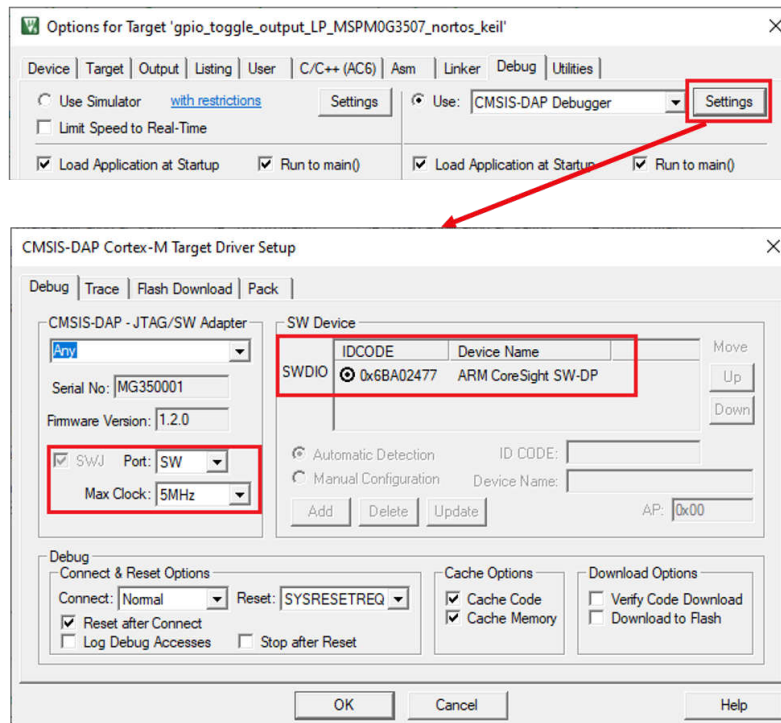
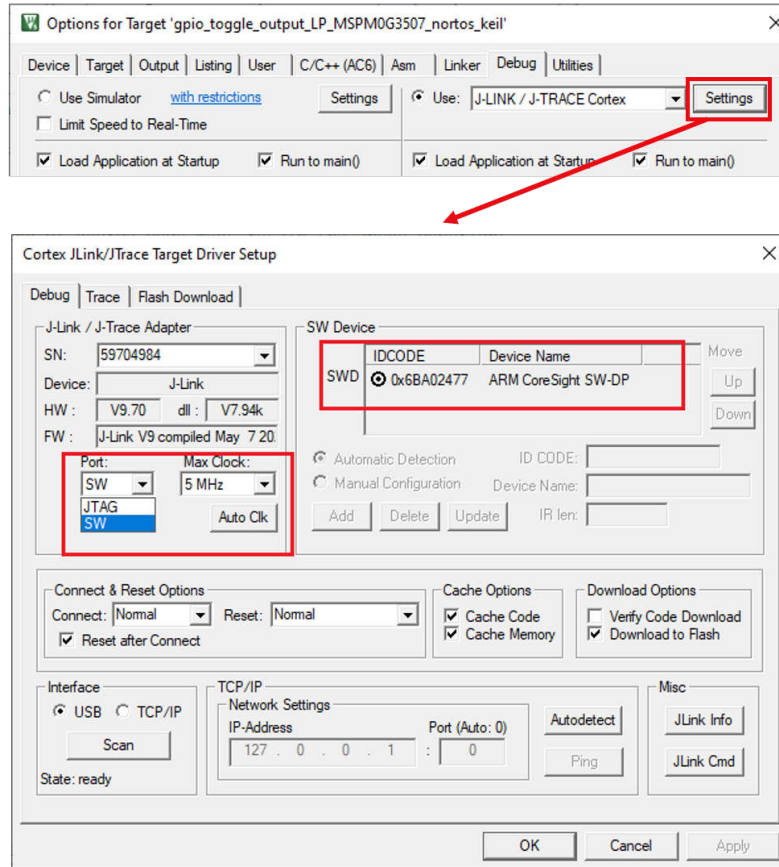

Figure 3-52. Check the Setting of XDS110 Probe
Figure 3-53. Check the Setting of J-Link Probe
- Click on the *Settings* button. On the *Debug* tab, make sure the settings match with Figure 3-52 and Figure 3-53.